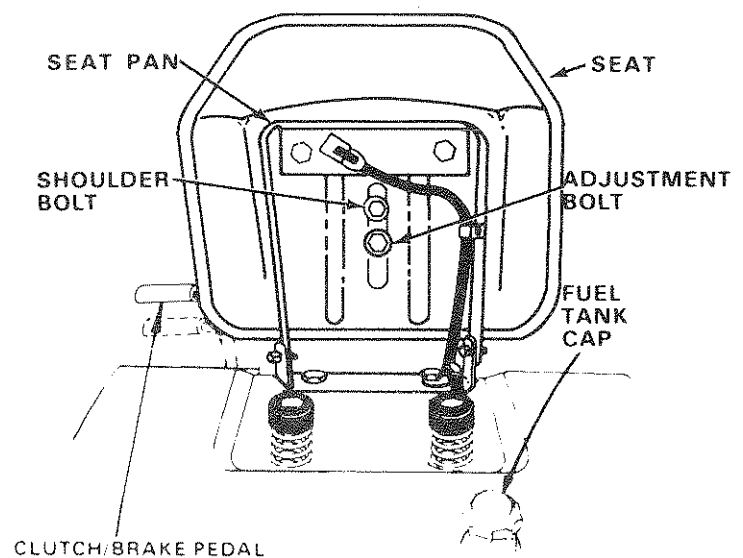

FIGURE 2
Seat position should be adjusted forward or backward so that the operator can comfortably reach Clutch/Brake Pedal and safely operate the tractor (Fig. 2).
- Place seat on seat pan. Screw hex head machine screw, lockwasher and flat washer into seat (Fig. 2). Screw shoulder bolt and flat washer into seat (Fig. 2). Machine screw, shoulder bolt and washers found in bag of parts (shown full size on page 6).